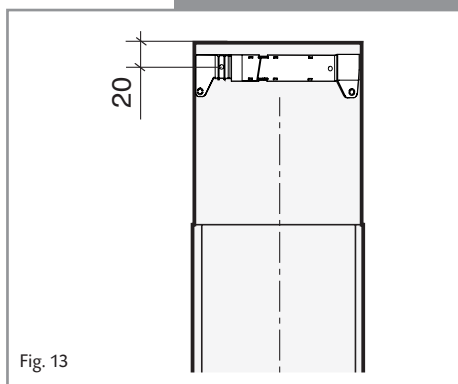

Fig. 13
1. Adjust the width of the mounting bracket to suit the chimney size of your extractor and mark 2 points on the wall, 20mm down from the ceiling for the fixings (fig 13).